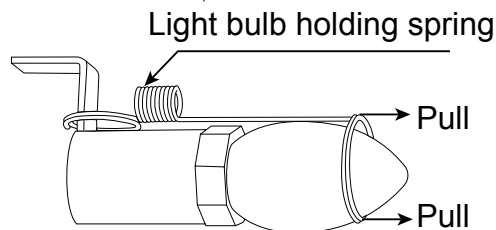

Fig. 6
6. Remove light bulb and replace with one clear 120-V, 40 Watt E12 Socket base light bulb (Fig.6).